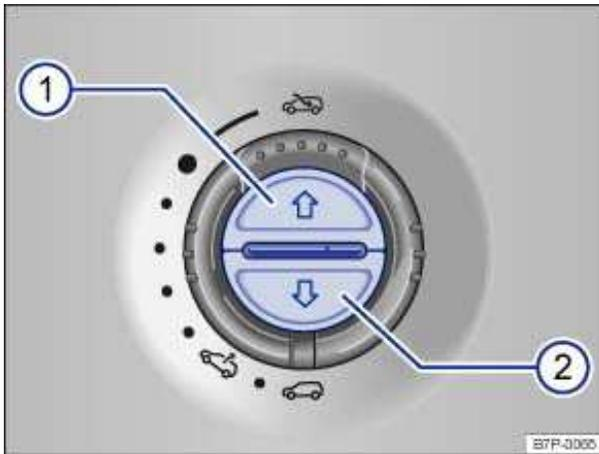

Fig. 36 In the headliner: Buttons for sunshade.
To open fully (one-touch feature):	Briefly press the ⇒ fig. 36 (1) button.